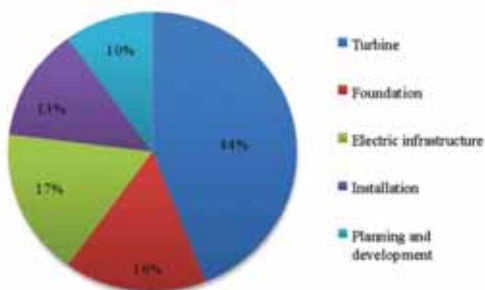

Figure 1- Cost structure of offshore wind power [3].
- Due to improving technology and standardized designs for the turbines (44% of investment costs, figure 1), most of the potential cost reduction is expected to come from the learning curve effect in wind turbine manufacturing [4].